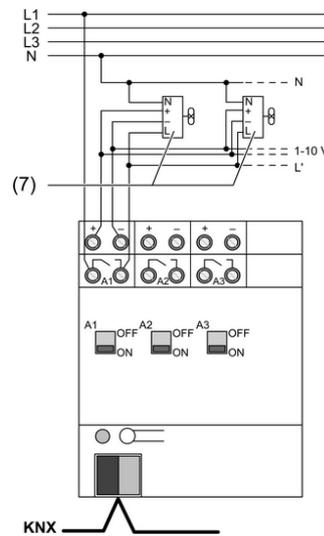

Figure 2
- Connect the device according to the connection diagram (Figure 2).